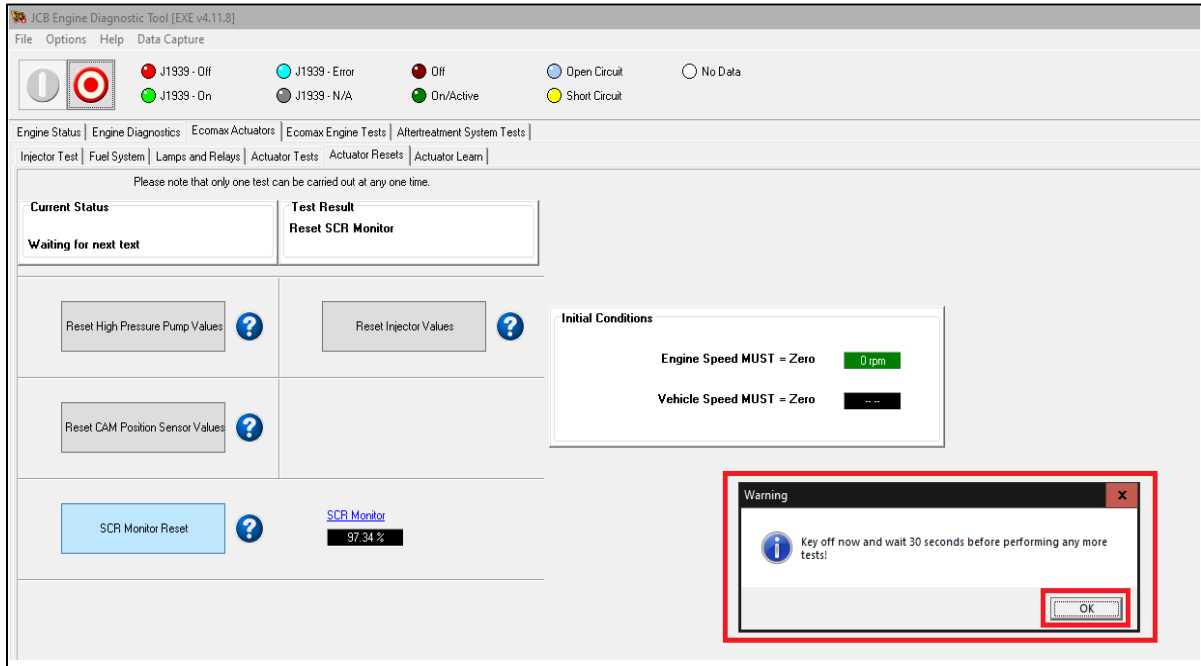

Figure 10
9. You should now see where the SCR Monitor value has changed and dropped to 97.x%. Click the 'Ok' button and 'Key Off' the machine until the K1 relay powers down and communication with ECM is no longer. See figure 10 below.